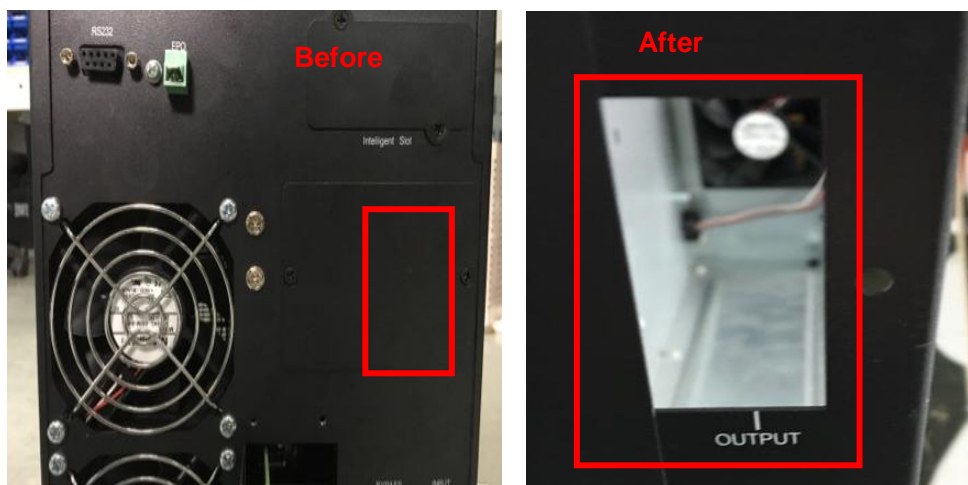

Figure 2 Output cover
2. Remove the screws and cover of output from cabinet ,as is shown in figure 2.